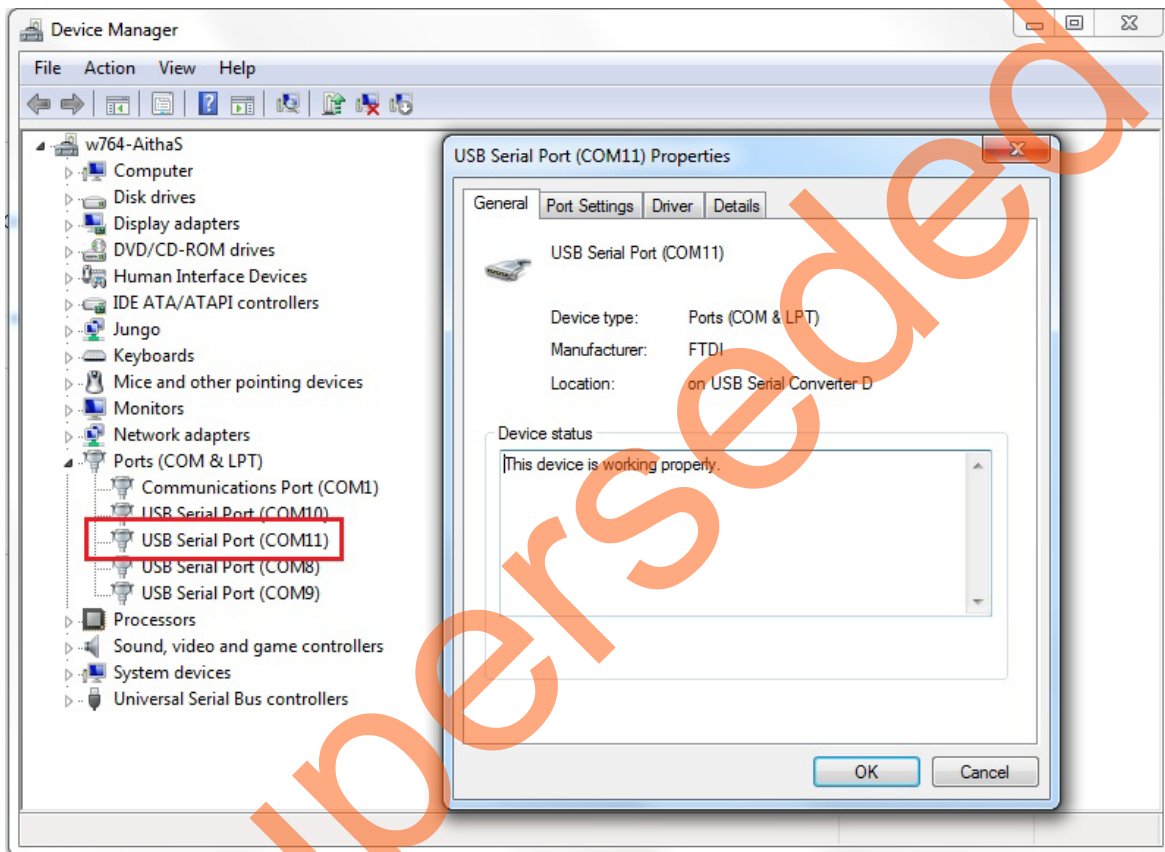
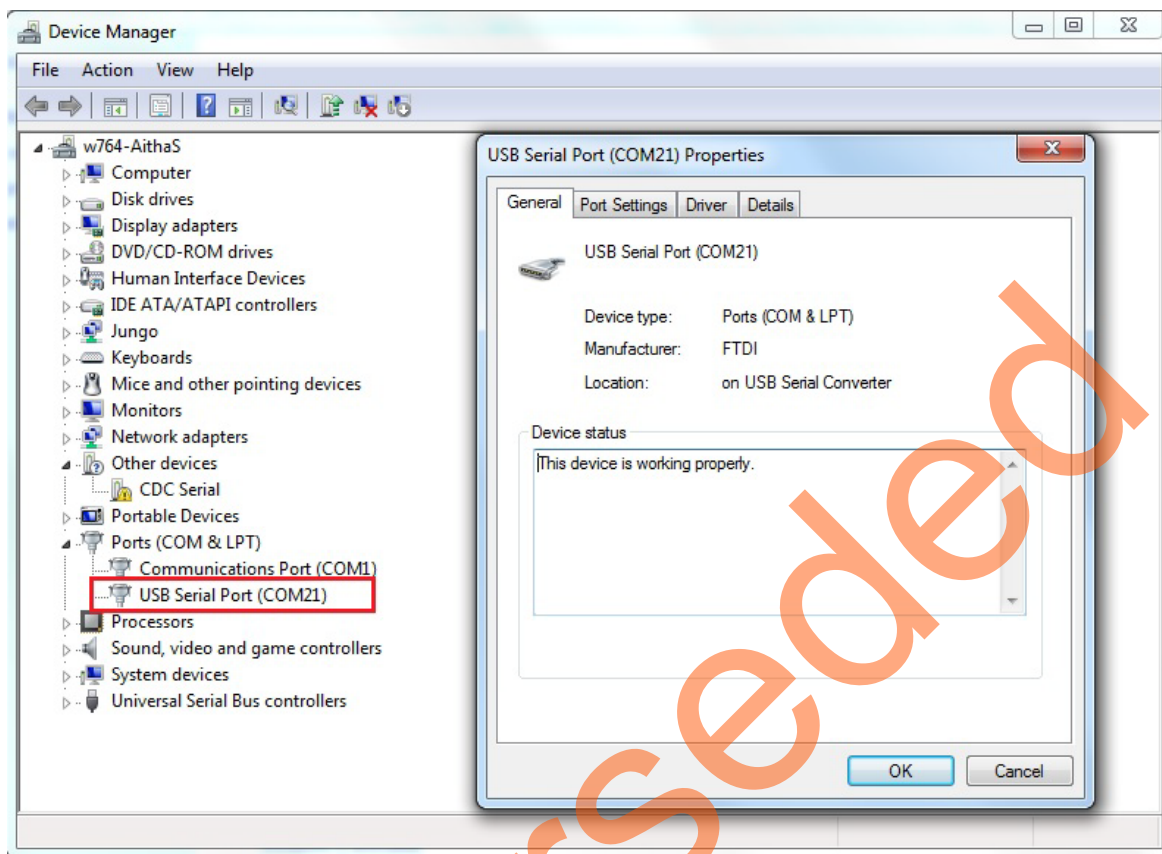

Figure 49 • SmartFusion2 Security Evaluation Kit USB Serial Port Drivers
Figure 50 • SmartFusion2 Starter Kit USB Serial Port Drivers
2. Connect the other end of the USB cable to the host PC. Ensure that the USB to UART bridge drivers are automatically detected, as shown in Figure 49 and Figure 50 on page 44.